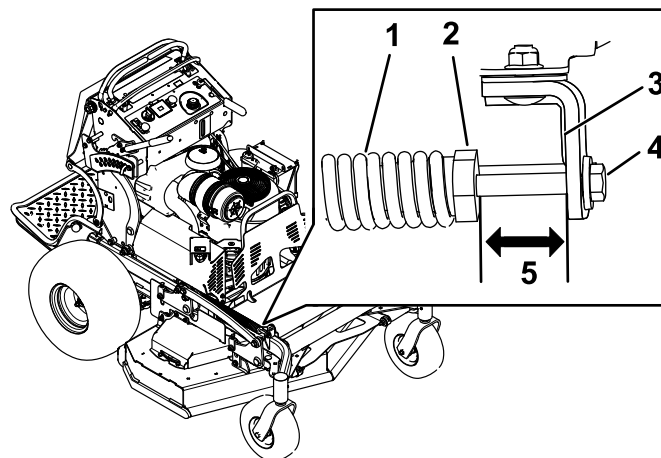

Figure 98
2. Check the distance between the spring nut and the rear side of the welded mount bracket (Figure 98).
3. Ensure that the length is between 47 to 50 mm (1.8 to 2 inches) (Figure 98).
4. If needed, adjust the distance by adjusting the bolt on the front of the mount bracket (Figure 98).